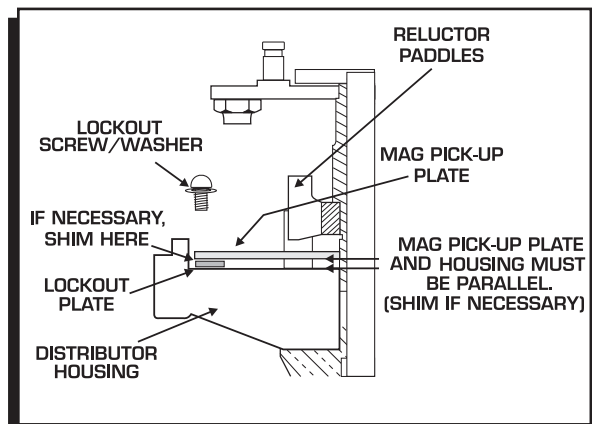

Figure 10 Checking Installation of the Lockout Plate.
5. Install the supplied screw and washer through the Lockout and tighten. It is important to make sure the pickup plate is parallel with the housing of the distributor (Figure 10). If it is cocked or slanted, the paddles of the reluctor may contact the pickup. Check the clearance by rotating the distributor shaft. If necessary, use the supplied shims under the Lockout hold-down to correctly position the pickup plate.